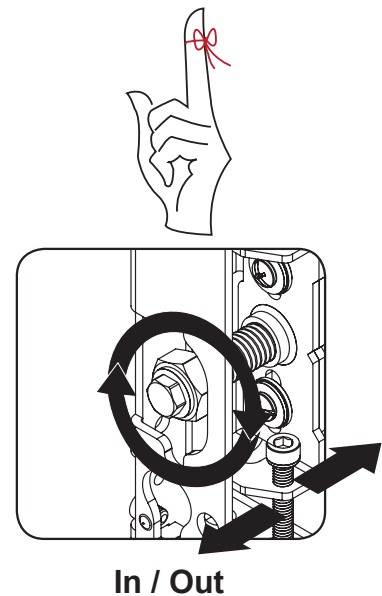

Figure 2
4. Adjust any necessary mounting location. See Figure 2.